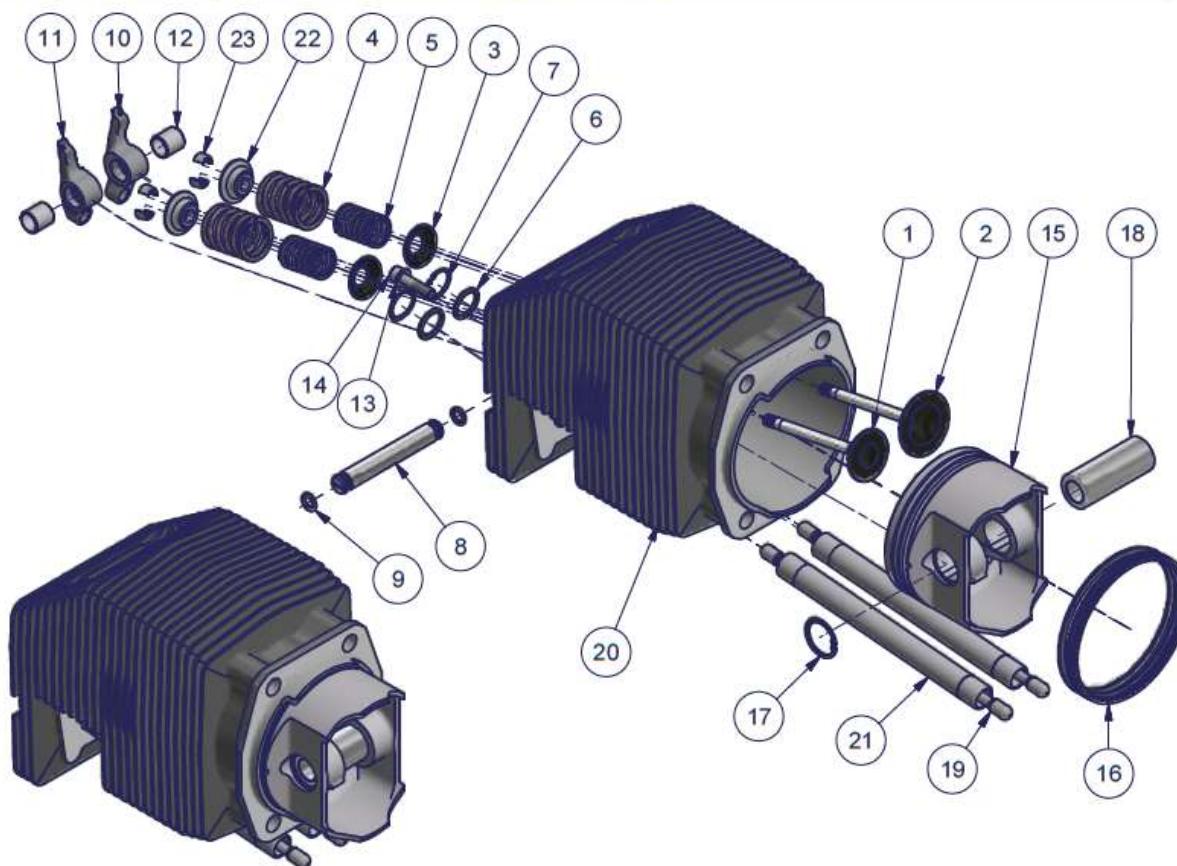

Figure 50 - 2200/3300 Cylinder subassembly - Parts list
- The **second previous cylinder head version** features the following (see Figure 50):